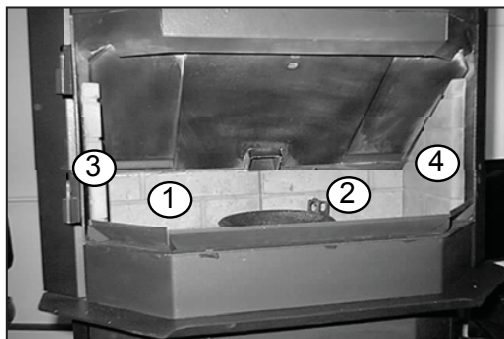

Figure 20.3
6. Complete brick set, correctly installed. **Figure 20.3.**